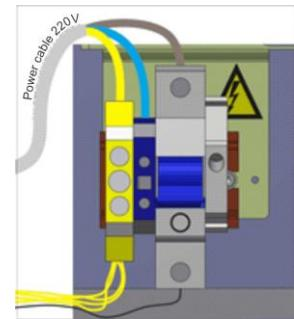
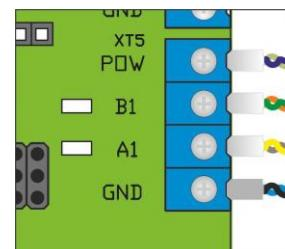

Fig.22 – Connection of power supply cable
Fig.23 – Connection the communication cable with control panel to terminals
- 7 install a reader if needed (*see Fig.23*);
a) Power supply cable ~220 V to be connected (Fig.22):
- Neutral (N) to be connected to terminal ~220V(N);
- Earth (PE) to be connected to earthing terminal (PE).
b) Control desk link cable to be connected to terminals (Fig.23):
d) Proximity card readers to be installed, if access control system (ACS) is available (Fig.23).